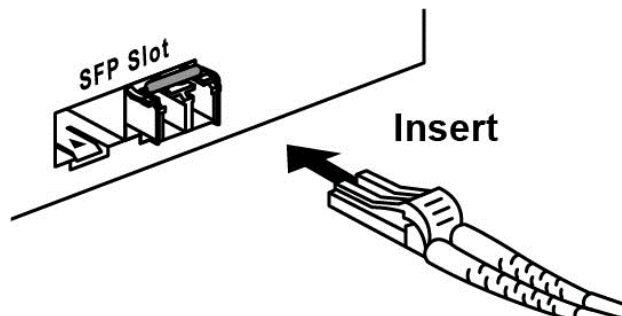

Figure 2.6: LC Connector to the Transceiver
**Step 2** Insert the fiber cable of the LC connector into the transceiver as shown below in Figure 2.6.